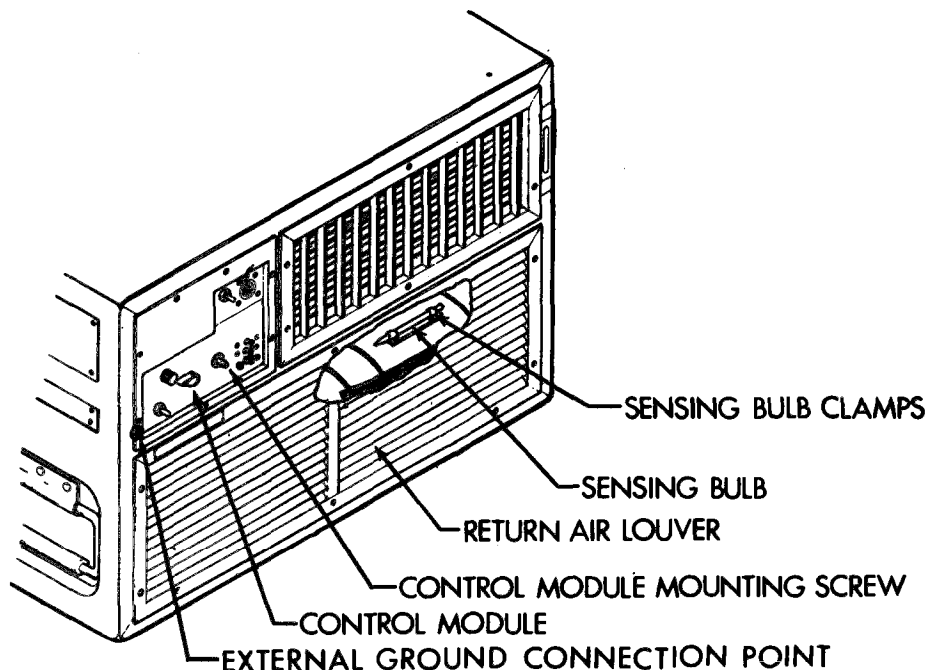

Figure 4-3. Control Module Removal
(2) Connectors are provided to permit remote installation of the control module. If it is determined that it is desirable to mount the control module in a remote (mounted elsewhere in the conditioned space) location the following steps must be taken. (See fig. 4-3.)
(4) Connect a 10 AWG (minimum) ground wire from shelter ground to air conditioner external ground. The air conditioner external ground connection point is located on front left side of control module. (See figure 4-3.)
(5) Fill in and seal area around the air conditioner to prevent loss of conditioned air. Flexible plastic foam and pressure sensitive tape may be used.